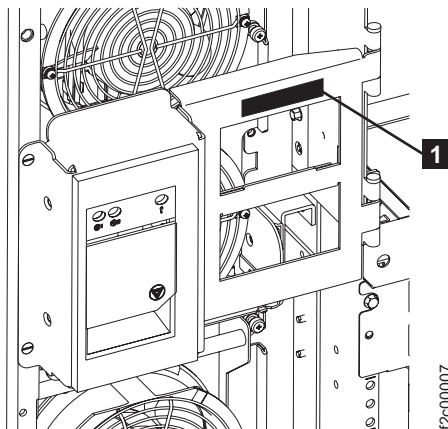

Figure 7. Rack operator panel label
1. View the rack number label to determine the rack location. See Figure 7 for the location of the rack number label.